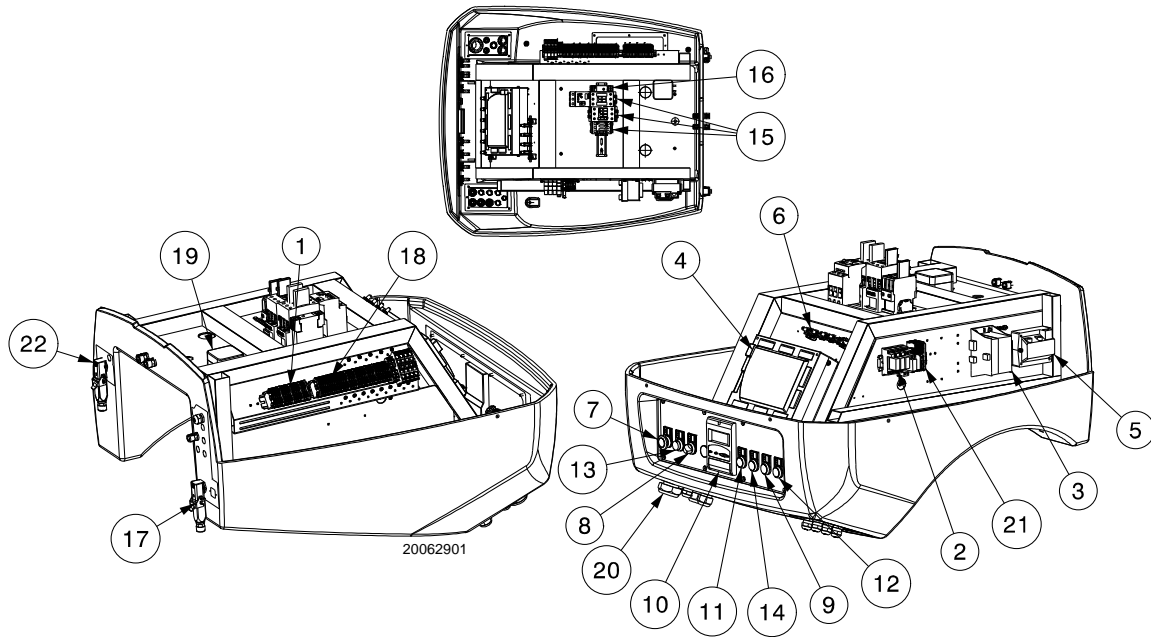

Fig. 5
- **Control box lockout:** if the pushbutton 13)(Fig. 5) (**red led**) lights up, it indicates that the burner is in lockout. release by pressing the pushbutton 13)(Fig. 5).